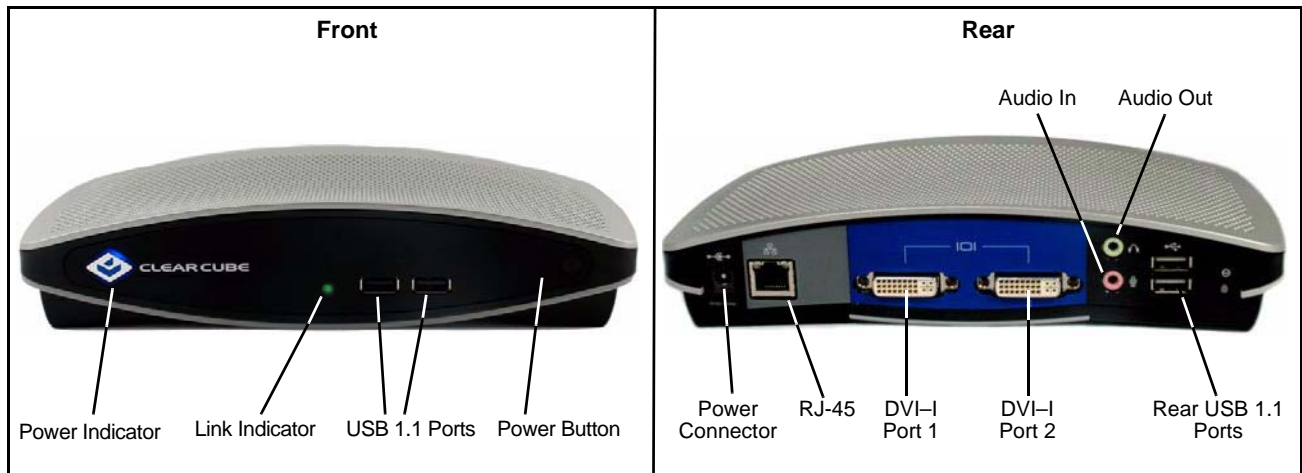

Figure 7. I9420 I/Port Front and Rear
- I9420 I/Port—Figure 7 on page 11